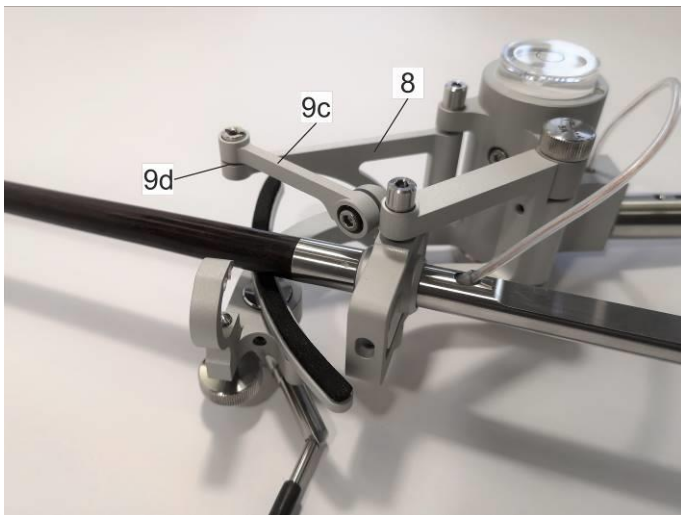

Figure 10
- o) Set tonearm lever [9c] on the tonearm front link [8] so that the lever bearing needle [9d] would be embed in sapphire V cup of the tonearm front link [8] (Figure 10).